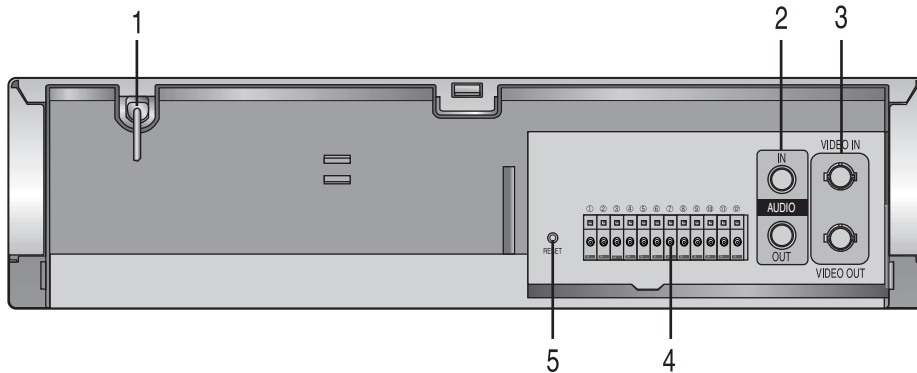

FIG. 4 - RT30A & RT960A CONNECTION
5.1 Video Connection (Fig 4, Item 3)
5.2 Audio Connection (Fig 4, Item 2)
5.3 Using the 12-pin Terminals (Fig 4, Item 4)